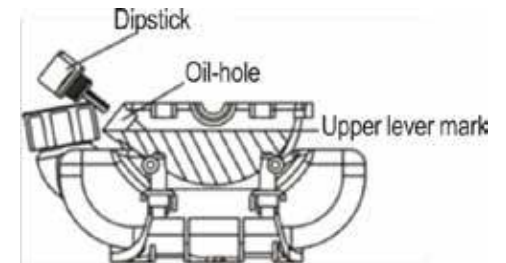

Fig.3
3. Reinsert the dipstick into the oil filler without screwing it in, and check oil level. (Fig.3)